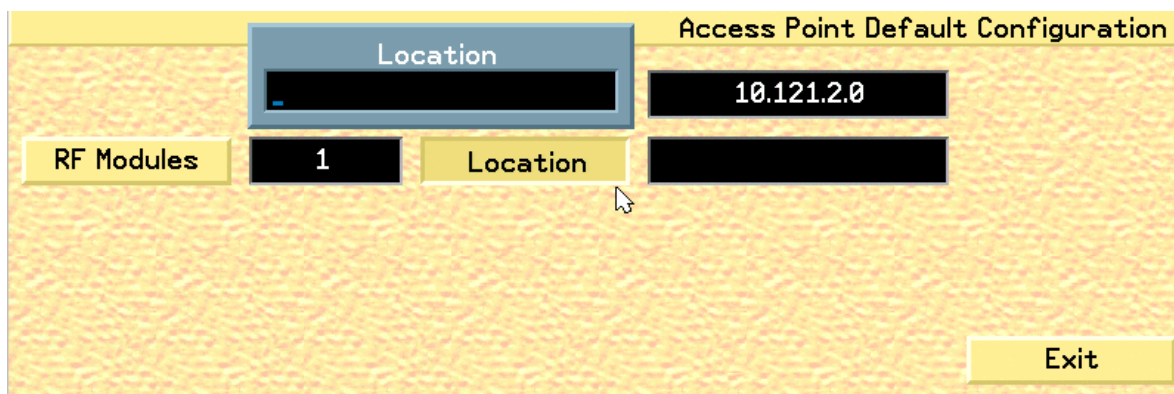

Fig. 76. Access Point Default Location Popup
5. Click the **Location** button to open the Location popup (see fig. 76 on page 121), which allows you to enter the default location of the Access Points.